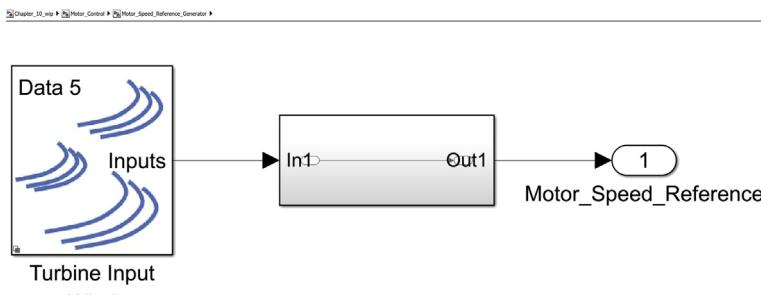

Figure 10.16 Changes inside Motor_Speed_Reference subsystem.
- Double click the Motor_Speed_Reference_Generator subsystem and delete everything except the Motor_Speed_Reference outport. Then copy the Turbine Input subsystem block from the Wind_Turbine.slx Simulink model and paste into the Chapter_10.slx model in the Motor_Speed_Reference_Generator subsystem. Then add an empty subsystem and connect the Turbine Input to the import of the subsystem. The outport of the empty subsystem should be connected to the Motor_Speed_Reference outport. Fig. 10.16 shows the changes.